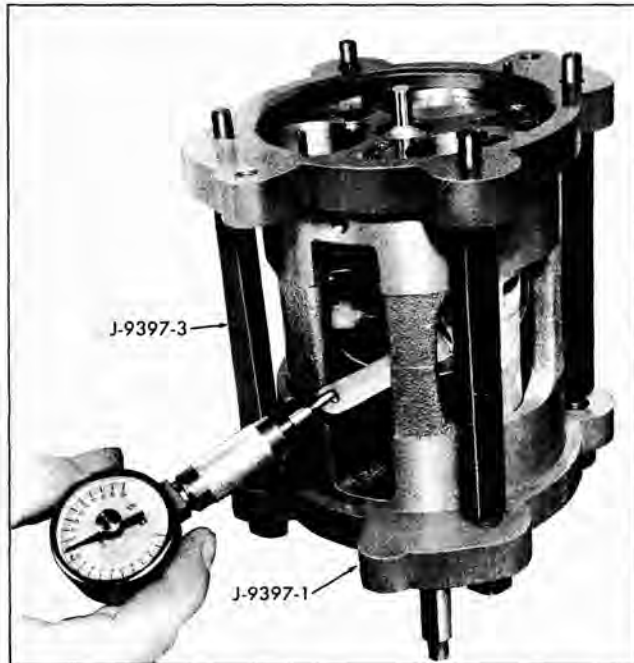

Fig. 5-84 Measuring for Proper Shoe
a. Use J-9661 gauge set selecting a suitable feeler gauge leaf until the result is a 4 to 8 oz. pull on the scale between ball and swash plate (Fig. 5-84). If the pull is just less than 4 ozs. add .0005" to the thickness of the feeler stock used to measure the clearance. If the pull on the scale reads just over 8 ozs. then subtract .0005" from the thickness of the feeler stock. Select a shoe accordingly.